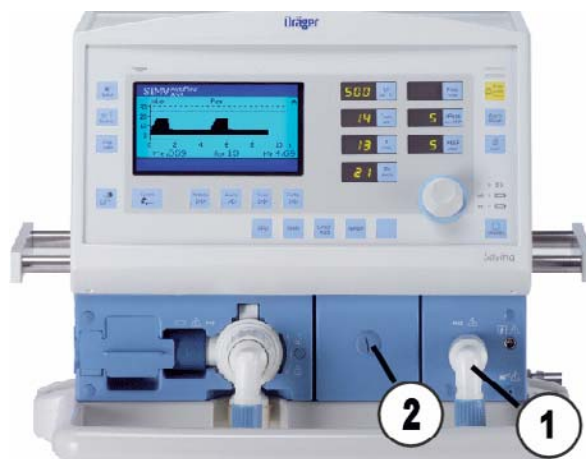

Fig. 33 Front view of unit, inspiratory socket and screw
1. Swivel the inspiratory port (Fig. 33/1) down.
2. Loosen the screw (Fig. 33/2) using a coin or similar implement and detach the O2 sensor cover.